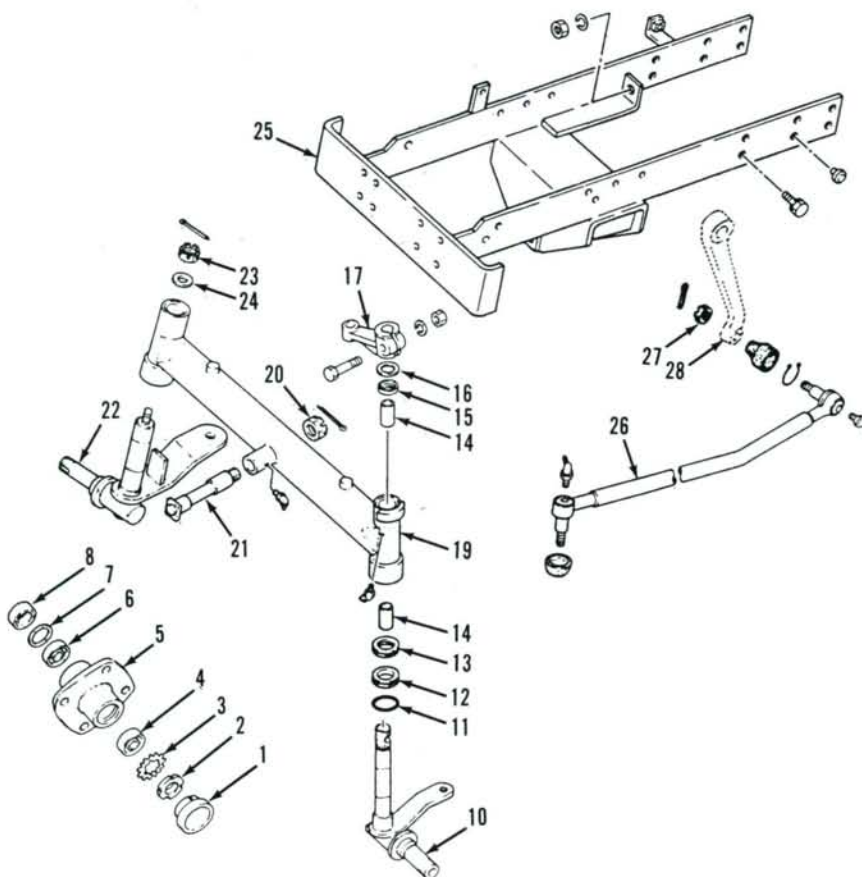

Fig. 1—Exploded view of front axle used on 235 models. Drag link (26) attaches to arm (17) and tie rod connects arms attached to the spindles (10 & 22).
1. The front wheel bearings should be removed, cleaned, inspected and renewed or repacked with grease every 1000 hours of operation. To remove front wheel hub and bearings, raise and support the front axle, unbolt and remove the tire and wheel assembly, then remove cap (1—Fig. 1 or Fig. 2). On 235 and 235H models, straighten locking washer (3—Fig. 1), then remove nut (2) and lockwasher. On all except 235 and 235H models, remove cotter pin, castellated nut (2—Fig. 2), and washer (3). On all models, use a suitable puller to remove the hub assembly from spindle axle shaft. Seal (8—Fig. 1 or Fig. 2) and inner bearing (6) will remain on spindle. Pack wheel bearings liberally with a suitable wheel bearing grease, such as Case IH 251 HEP.
Reassemble by reversing disassembly procedure. On 235 and 235H models, install new locking washer (3—Fig. 1) and tighten nut (2) to 39-58 N·m (28-43 ft.-lbs.) torque, loosen nut until the rolling torque of wheel hub (5) is 0.6-0.8 N·m (6-7 in.-lbs.), then lock